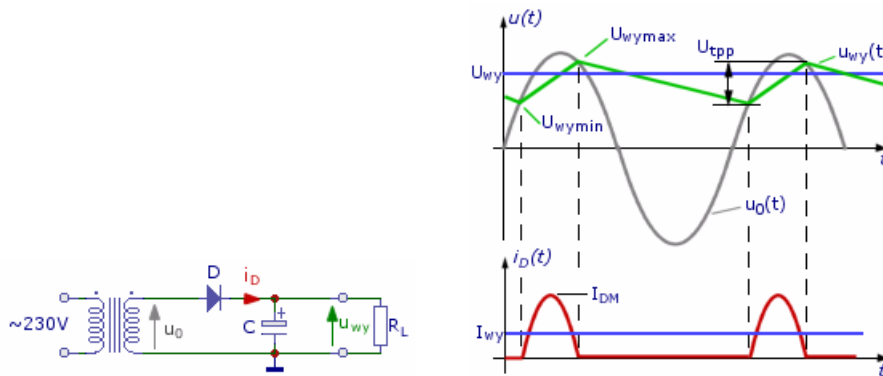
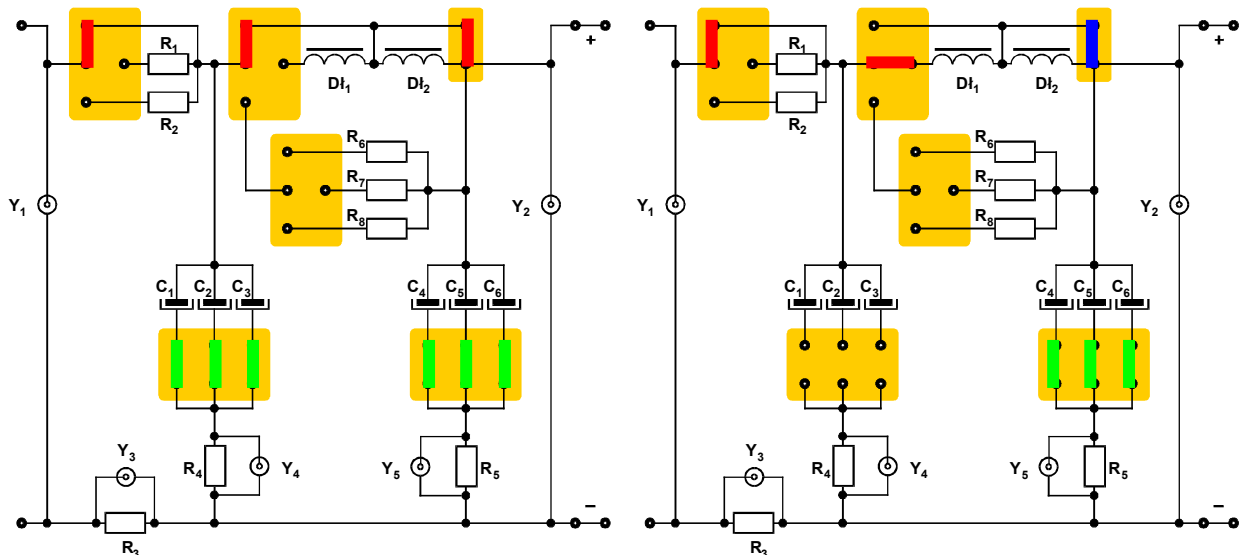
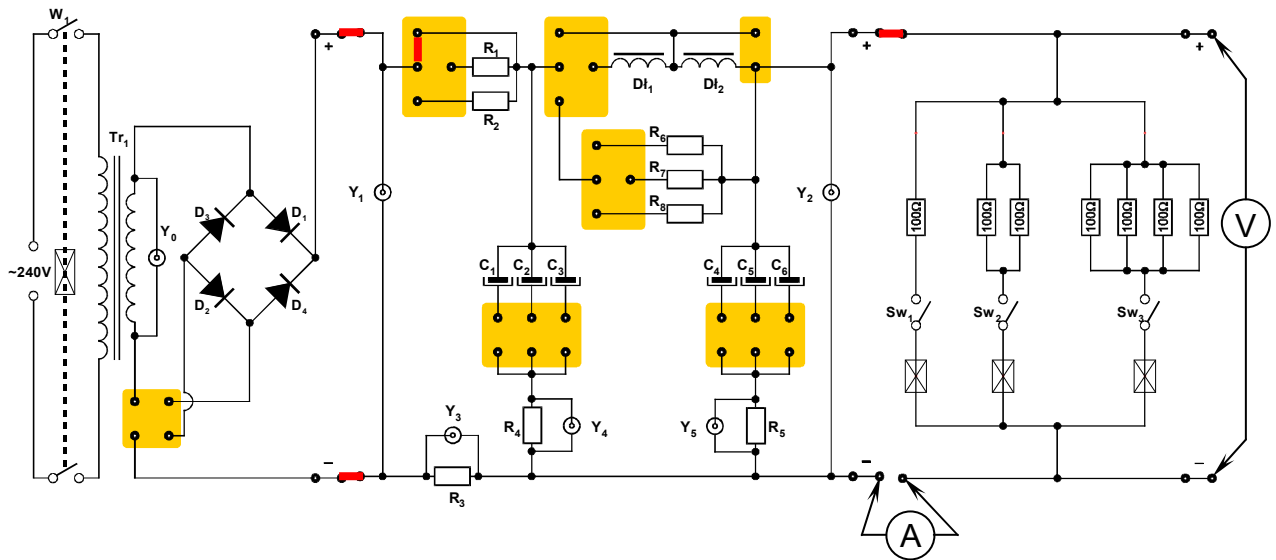

Fig.4. Schematic diagram of half-wave rectifier circuit with simple capacitor filter and oscillograms of output signals of voltage and diode current [4].
Fig. 7a. Simple capacitor filter. Red color jumpers are fixed. Green color jumpers are used to change the capacitance of filter.
Fig. 10. Total schematic diagram of investigated setup to observe ripple voltage for different filters and various resistances of load.
5. Connect the circuit according to the diagram presented in Fig. 10 to observe and measure the ripple voltage. Use the jumper to select the half-wave mode of rectifier (see the Fig. 6a). Check if all of  $Sw_1$ ,  $Sw_2$ ,  $Sw_3$  switches are set to 0 ( $R_L \rightarrow \infty$ , minimum load). Use the jumpers to select the simple capacitor filter at the middle front panel of module (see Fig. 7a). Set the capacitance to  $C = C_1$ . Select 200 or 400 V DC and 20A DC ranges of DMMs. **WARNING: you have to connect the red wire of DMM ammeter to terminal marked as 20A.** Connect the two channels of oscilloscope to  $Y_2$  and  $Y_3$  BNC connectors on the front panel of experimental module. Signal from  $Y_2$  allow to measure the ripple voltage of rectifier. **Ask the supervisor to approve the circuit configuration before you switch on the power.** Use the  $W_1$  switch to power on the circuit. Read the peak-to-peak ripple voltage  $U_{tpp}$  (see the Fig. 4) directly from the oscilloscope display. Notice the indications of DMMs ( $U_{wy}$ ,  $I_{wy}$ ). Write down the obtained results in the Table 1.